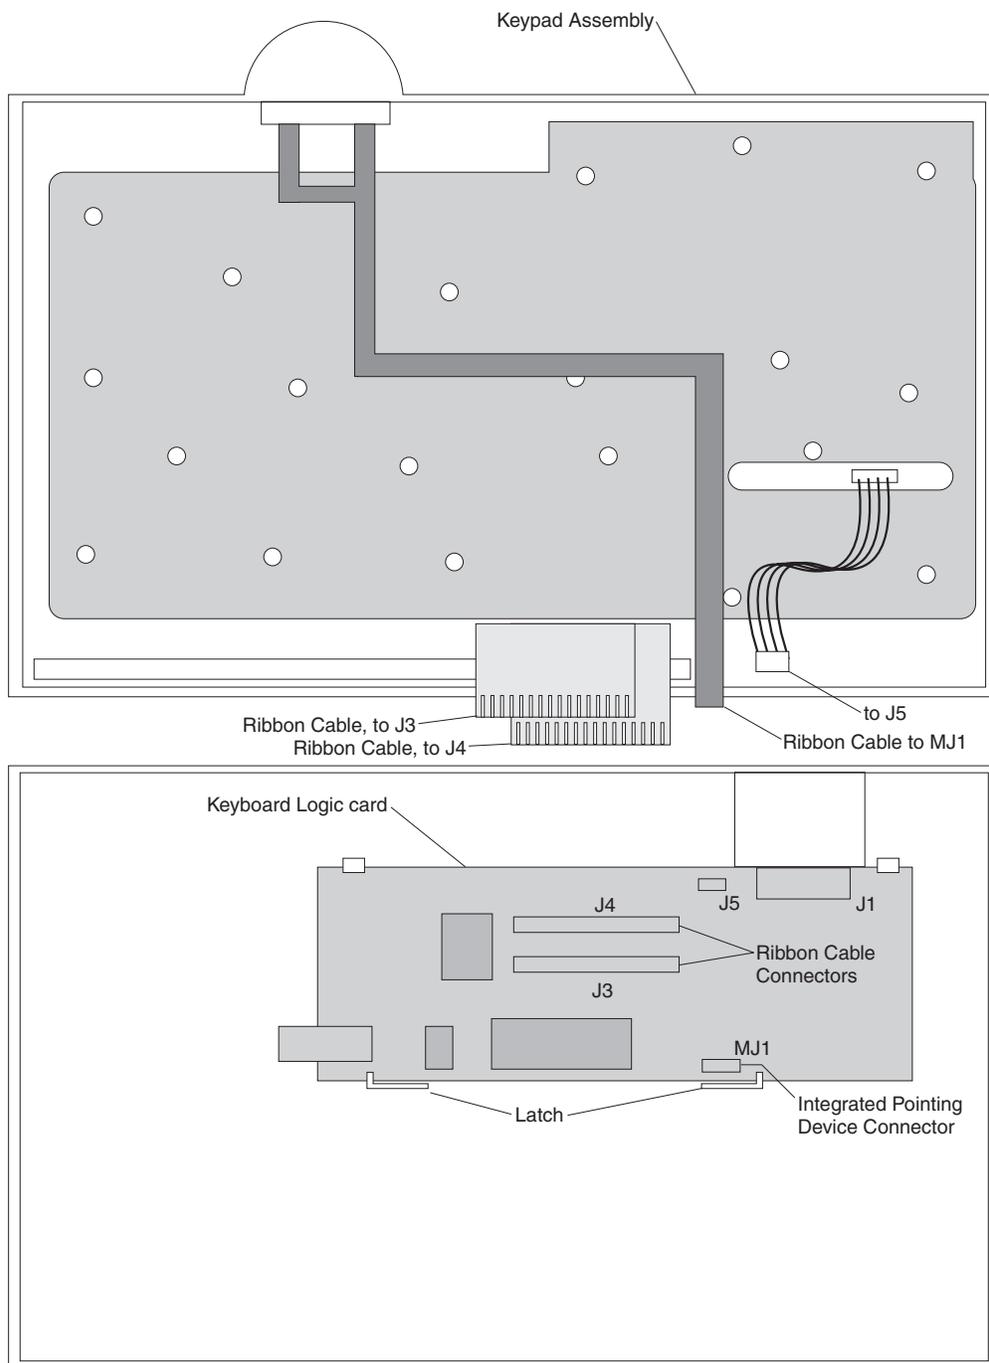

Figure 46. CANPOS keypad assembly without MSR
- d. Disconnect all cables between the keypad assembly and the keyboard logic card. See Figure 46 on page 48 for cable callouts and locations.
2. Pull the two card-retention latches away from the card, and lift the logic card out of the keyboard base. See Figure 46 on page 48 for card and latch locations.